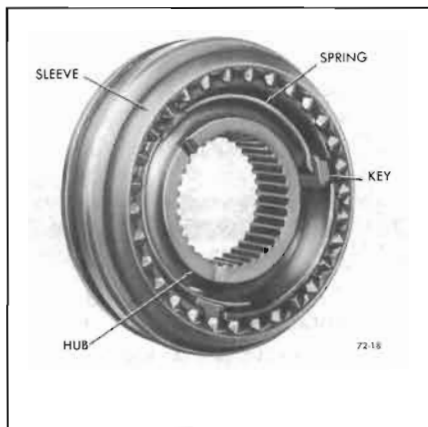

Figure 72-18—Synchronizer Assembly splines identifies the end that must be opposite the fork slot in the sleeve. See Figure 72-19.
c. Place the three (3) keys and two springs in position (one on each side of hub) so all three (3) keys are engaged by both springs. See Figure 72-18.